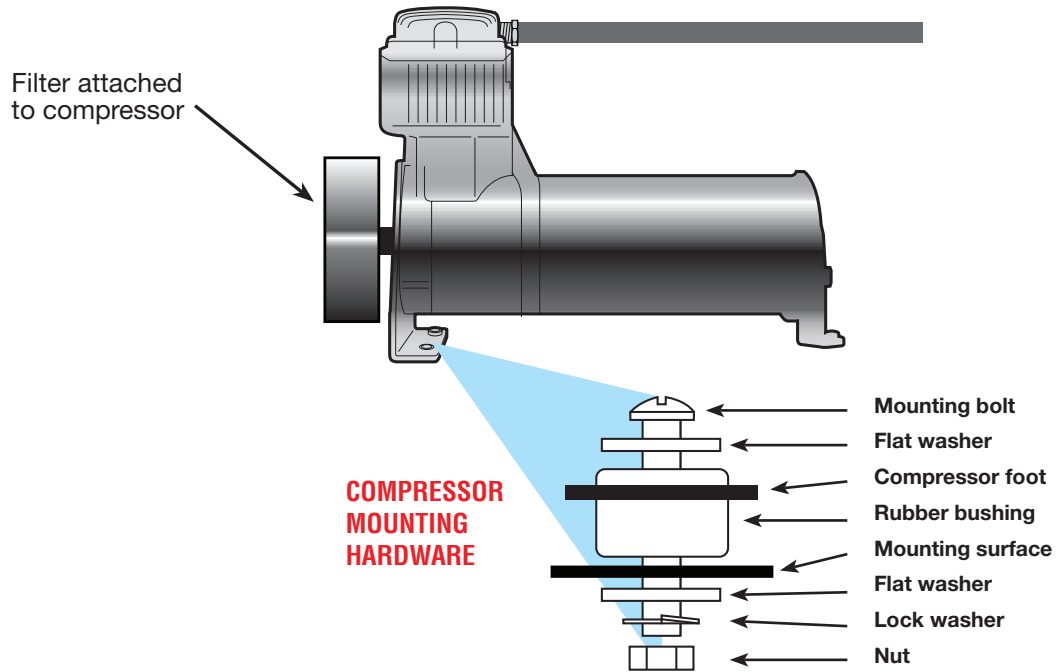

fig. 13
2. Fasten the manifold using the supplied hardware. If the mounting surface is not flat, add washers or a spacer to lift the manifold up over surface irregularities (fig. 13). In addition to the provided self-tapping screws, the manifold mounting holes are threaded and can be secured with 5/16-18 bolts (also supplied).